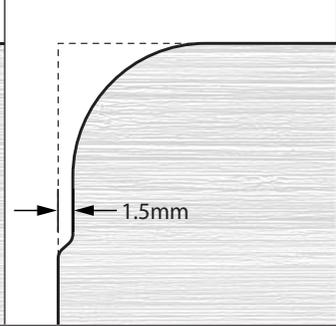

Fig. 6a
- For a Raw finish, insert location pins into Post Convex Pin Holes marked "A" (Fig. 6a)